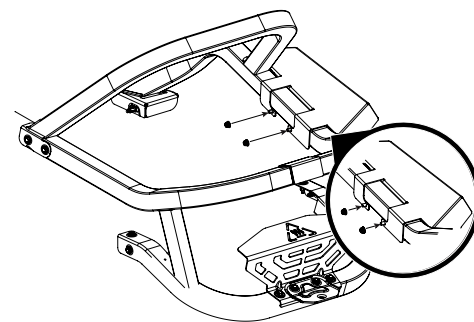

Figure 5
5. Secure the two hex screws under the frame with two of the nuts supplied with this kit. See Figure 5.